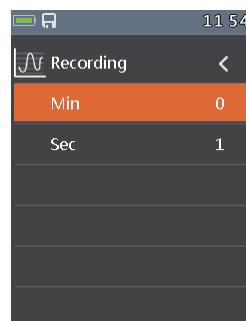

Fig133
- In Record Menu. Press the Button ▲ or ▼ key to select Sample Interval Item or Duration Item. Press the Button ► Enter Record setting. Then Press the Button ▲ or ▼ key to adjust time. (Fig133)Setting of sampling interval from 1s to 59min:59s.